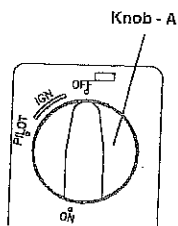

Figure 4
- Turn knob-A (Figure 4) slightly left towards the 'IGN' position until reaching stop, press down and hold for five seconds (only pilot gas flows).
- Turn knob-A (Figure 4) right until reaching stop.